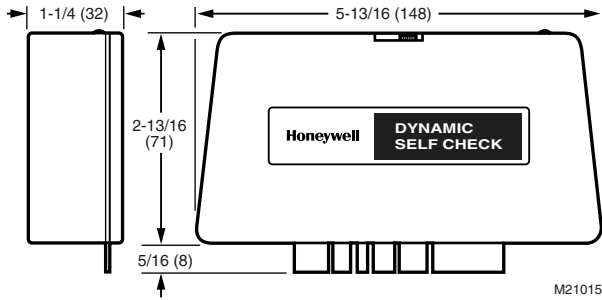

Fig. 1. Dimensions of R7476A Dynamic Self-Check Ultraviolet Amplifier in in. (mm).
2. Align the circuit board with the receptacle on the flame safeguard control (see Fig. 1).